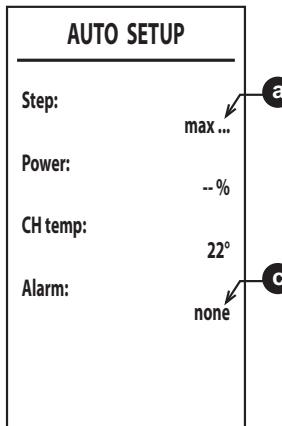

fig. 38
6. After ignition, the burner goes to the various powers (max, med, min) indicated by **a** (fig. 38).
shows **max_err** at **a** and an error code at **c** (fig. 38).